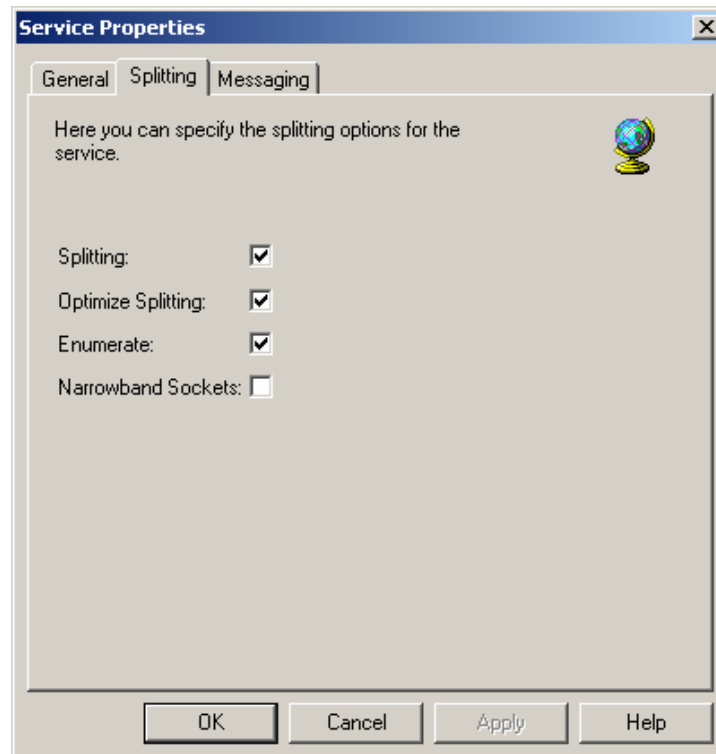

Figure A.16. SMS Service Properties: Splitting Tab
3. On the **Splitting** tab, shown in **Figure A.16**, check the **Splitting**, **Optimize Splitting**, and **Enumerate** check boxes.